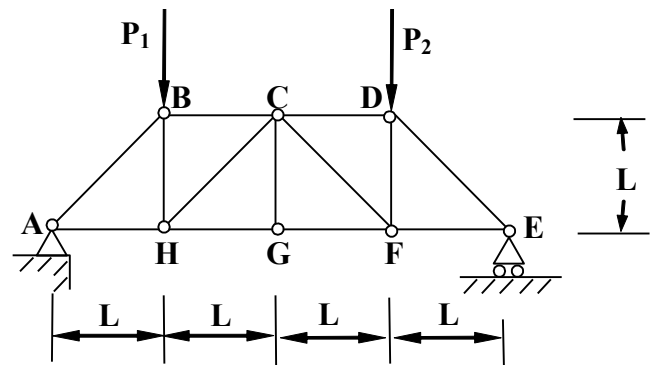

Figure 6
6. Find the axial forces in all the bars of the truss shown in Fig. 6, for each of the following loading systems: